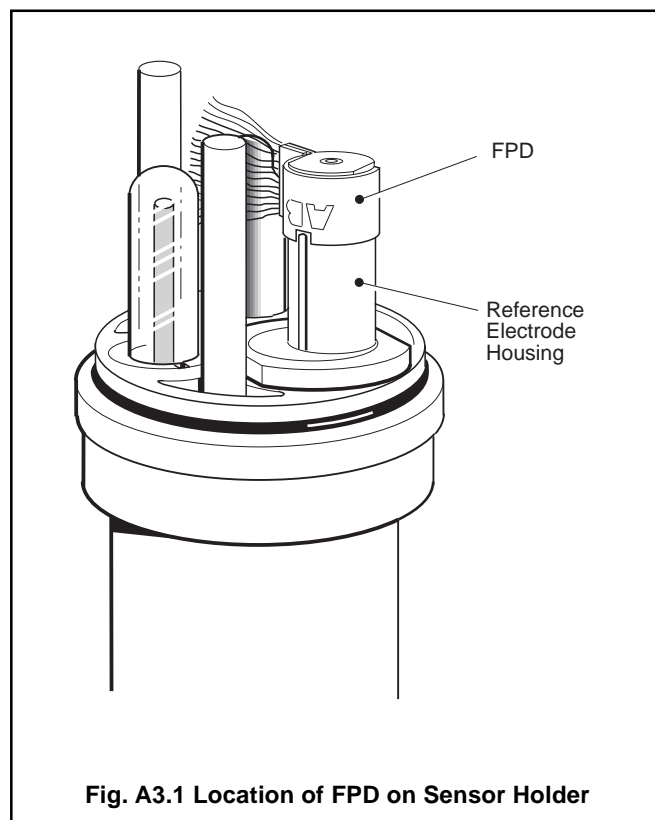

Fig. A3.1 Location of FPD on Sensor Holder
- Identify the reference electrode housing and the locating rib for the clip – see Fig. A3.1.
- Take the FPD and clip it over the end of the housing. Rotate the clip so that the slot aligns with the rib on the housing and push it down into position – see Fig. A3.1.